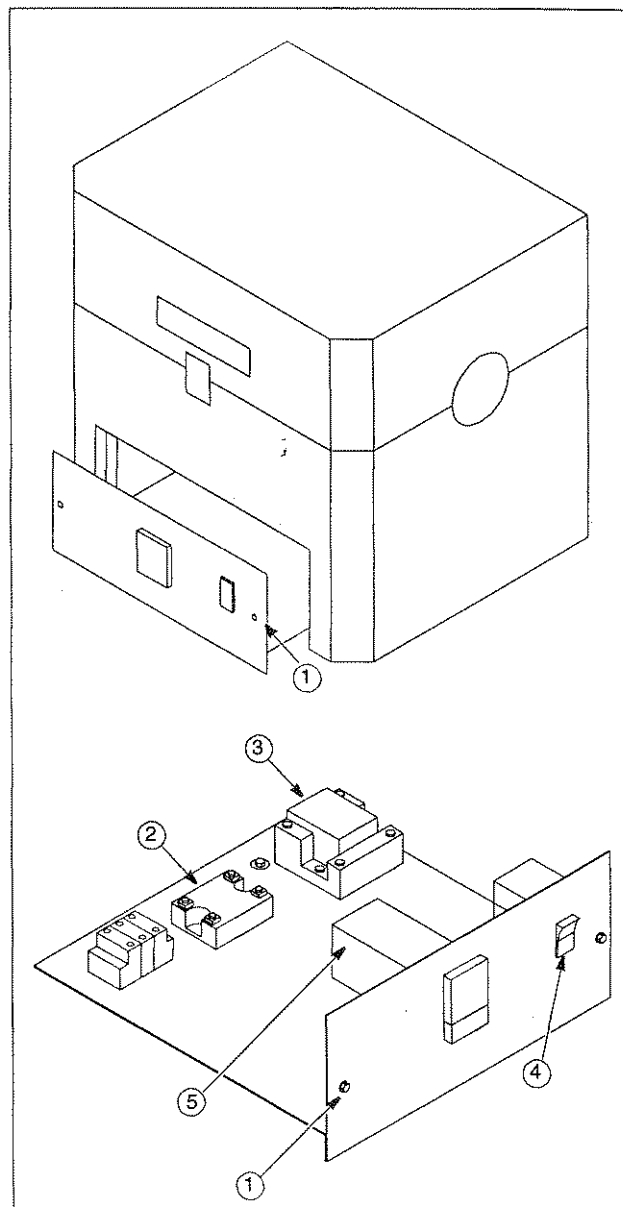

Figure 5. Solid State Relay Replacement
Refer to the Troubleshooting section for relay testing. If the solid-state relay is inoperable, complete the following steps to replace the relay (refer to Figure 5):
1. Remove the screws located on the left and right sides of the control panel (#1 in Figure 5).
3. Locate the solid-state relay on the component tray (#2 in Figure 5).
Refer to the Troubleshooting section for power relay testing. If the power relay is inoperable, complete the following steps to replace the relay (refer to Figure 5):
1. Remove the screws located on the left and right sides of the control panel (item #1 in Figure 5).
3. Locate the power relay on the component tray (item #3 in Figure 5).
To replace the temperature controller, complete the following steps (refer to Figure 5 on page 12):
1. Disconnect main power and switch the circuit breaker (#4 in Figure 5 on page 12) to the OFF position.
2. Remove the two sheet metal screws located on each side of the furnace near the lower front (#1 in Figure 5 on page 12). Pull the control panel forward to access the controller (#5 in Figure 5 on page 12).